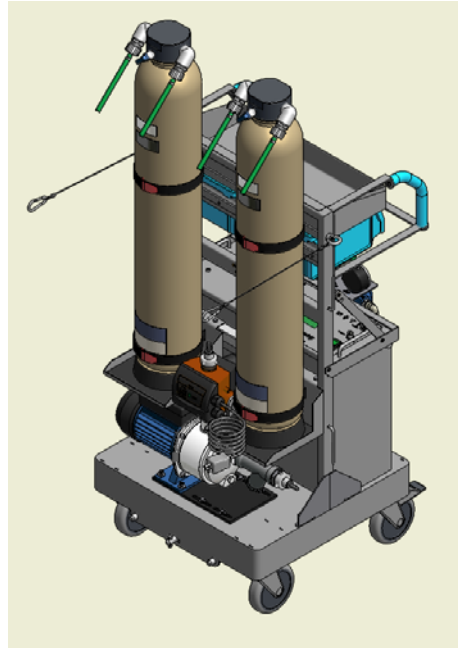

Figure 8 – Velcro[®] straps
7. Position two activated carbon tanks on rubber pads and fix them securely with two Velcro[®] straps each. Keep in mind that carbon bottle inlets and outlets are coded (see Figure 8).